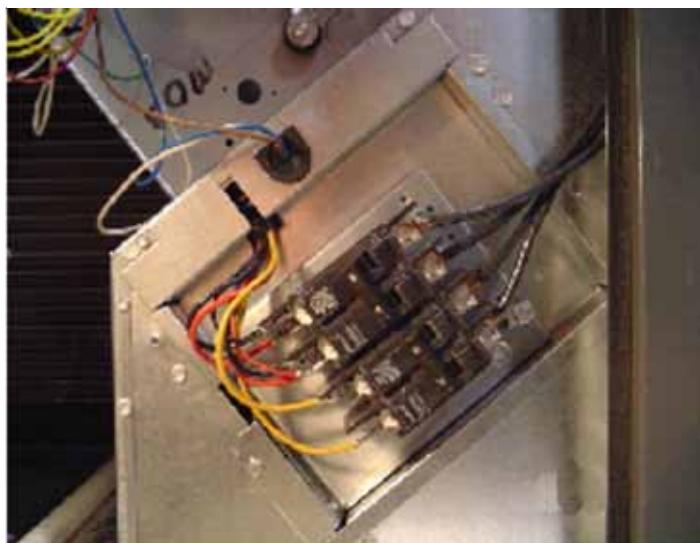

FIGURE 8
11. Feed the 9-pin harness wires through the rubber grommet, and feed the HKR wires through the plastic bushing in the rear mounting plate. See Figure 8.